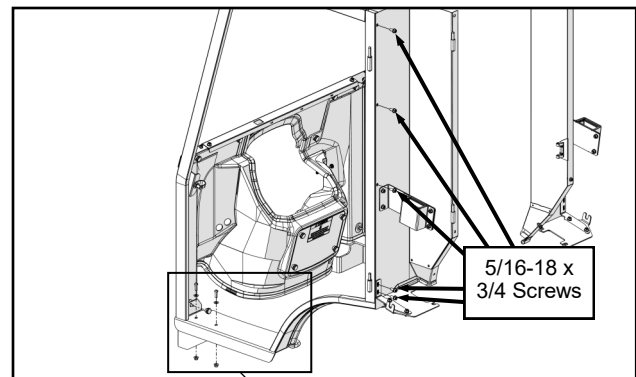

Fig. 7.2a (Side Frame)
- 7.2 Fasten the left side frame to the left Front Mount, Radiator Shroud, and Rear Leg. See Figures 7.2a and 7.2b.